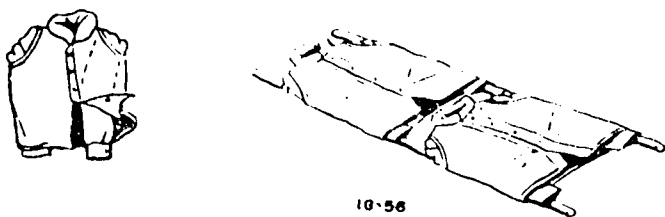

Figure 1-9. Pole and jacket litter.
*b. Pole and jacket litter.* Illustrated in figure 1-9 is an example of how you can use two or three shirts or field jackets to make a pole and jacket litter. Button up the jackets and turn them inside out so that the lining is outside and the